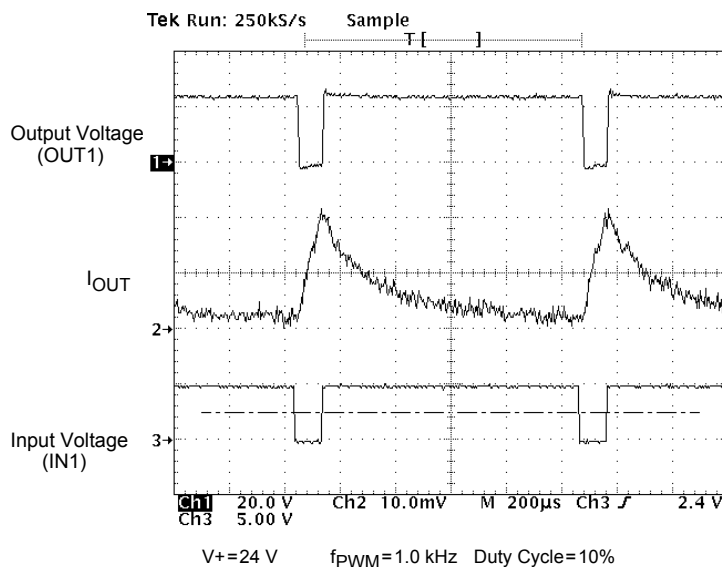

Figure 12. Output Voltage and Current vs. Input Voltage at $V^+ = 24\text{ V}$, PWM Frequency of 1.0 kHz, and Duty Cycle of 10%
- 24 The outputs can be PWM-controlled from an external source. This is typically done by holding one input high while applying a PWM pulse train to the other input. The maximum PWM frequency obtainable is a compromise between switching losses and switching frequency. See Typical Switching Waveforms, Figures 12 through 19, pp. 14–17.